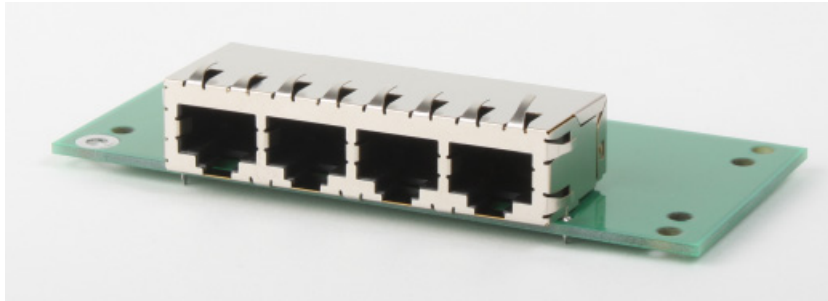

Figure 7: EP386 Panel
- **EP386 panel** – The EP386 panel, shown in Figure 7, contains four RJ45 connectors that are wired in parallel, making it useful when attaching up to four DT9838 modules together using the Sync Bus. Refer to page 114 for more information on using this panel.